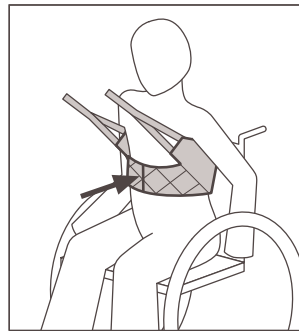

Figure 2
4. Fasten the vest round the clients waist by using the adjustable buckle and ensure that the clients arms are outside the Invacare Stand Assist sling. **Figure 2.**